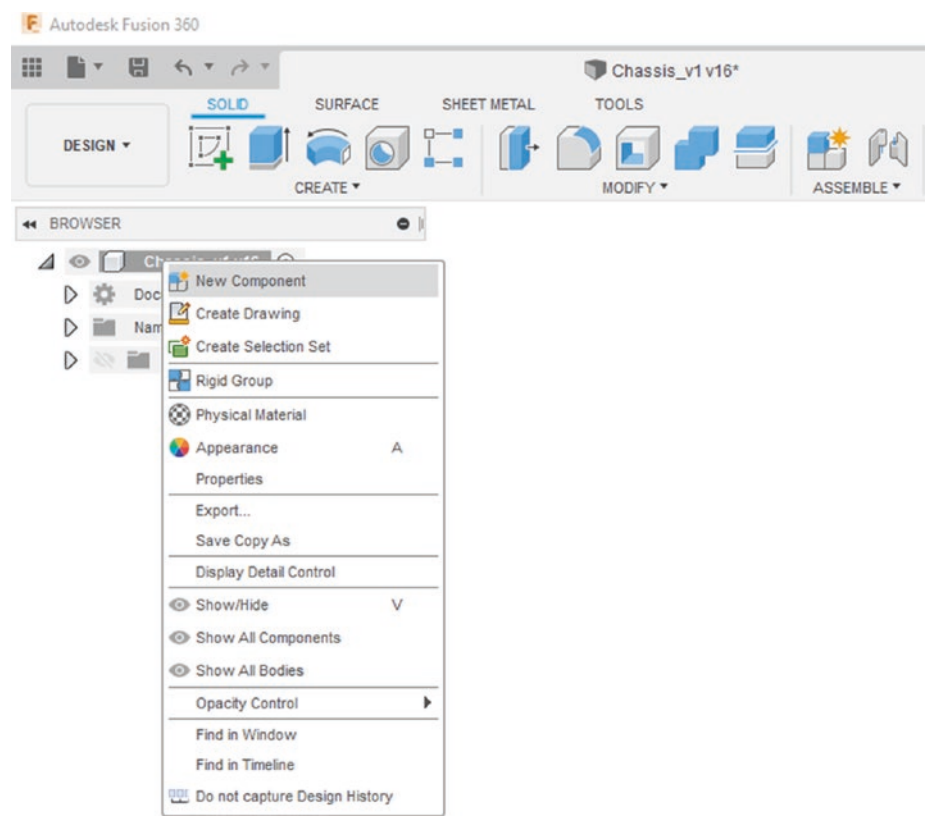

Figure 6-51. Create a new component
2. Create a new component by right-clicking the main component at the top of the browser. See Figure 6-51. You can name that component "Chassis."